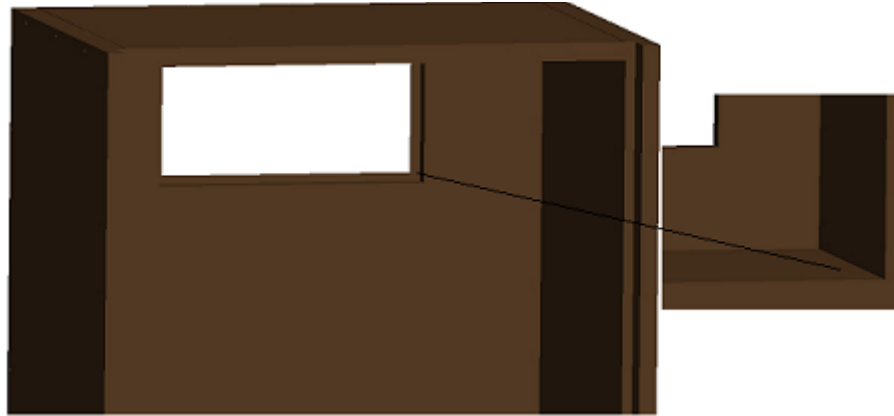

Fig. 2.1 Rear Cutouts
- Make a rectangular through hole on the rear or front wall of the cabinet with 7/8" less than the width and height of the cooling unit. Make 1/2" wide lips to place the gaskets as shown in Fig. 2.1.